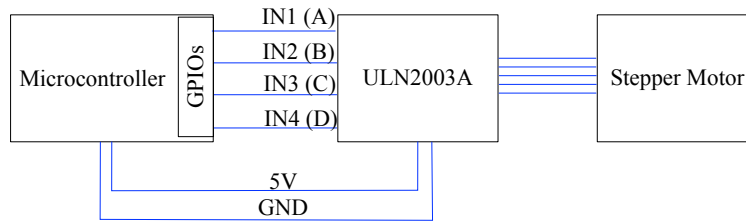

Figure 9.2: Stepper Motor Circuit.
**Circuit:** Figure 9.2 shows the circuit connection for the stepper motor with the driver and the Microcontroller. The script to control the Stepper Motor can be accessed at: